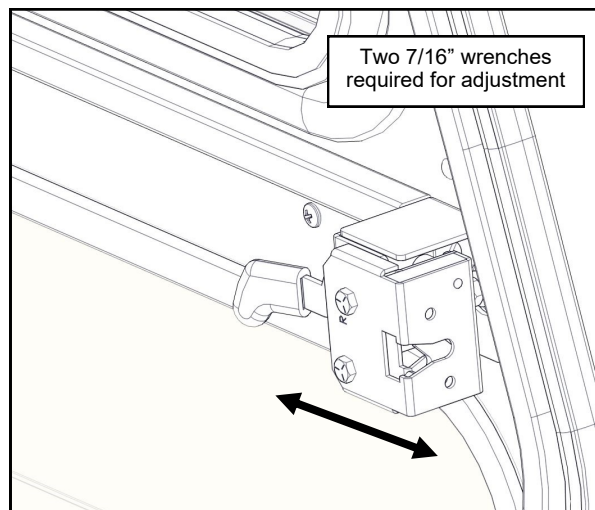

Fig. 21.3b (Door Latch Adjustment)
- Adjust the latch located inside the door horizontally - See Fig. 21.3b